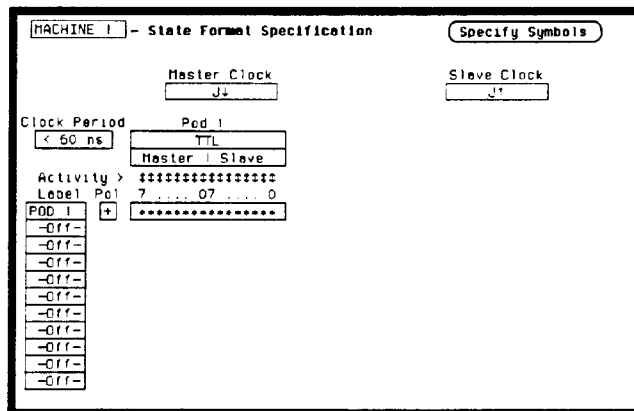

Figure 3-28. Format Specification for Data Test 6
- Set up the **State Format Specification** as in figure 3-28. Assign the falling J clock as the **Master Clock** and the rising J clock as the **Slave Clock**. Refer to steps a through d if you are unfamiliar with the menus.